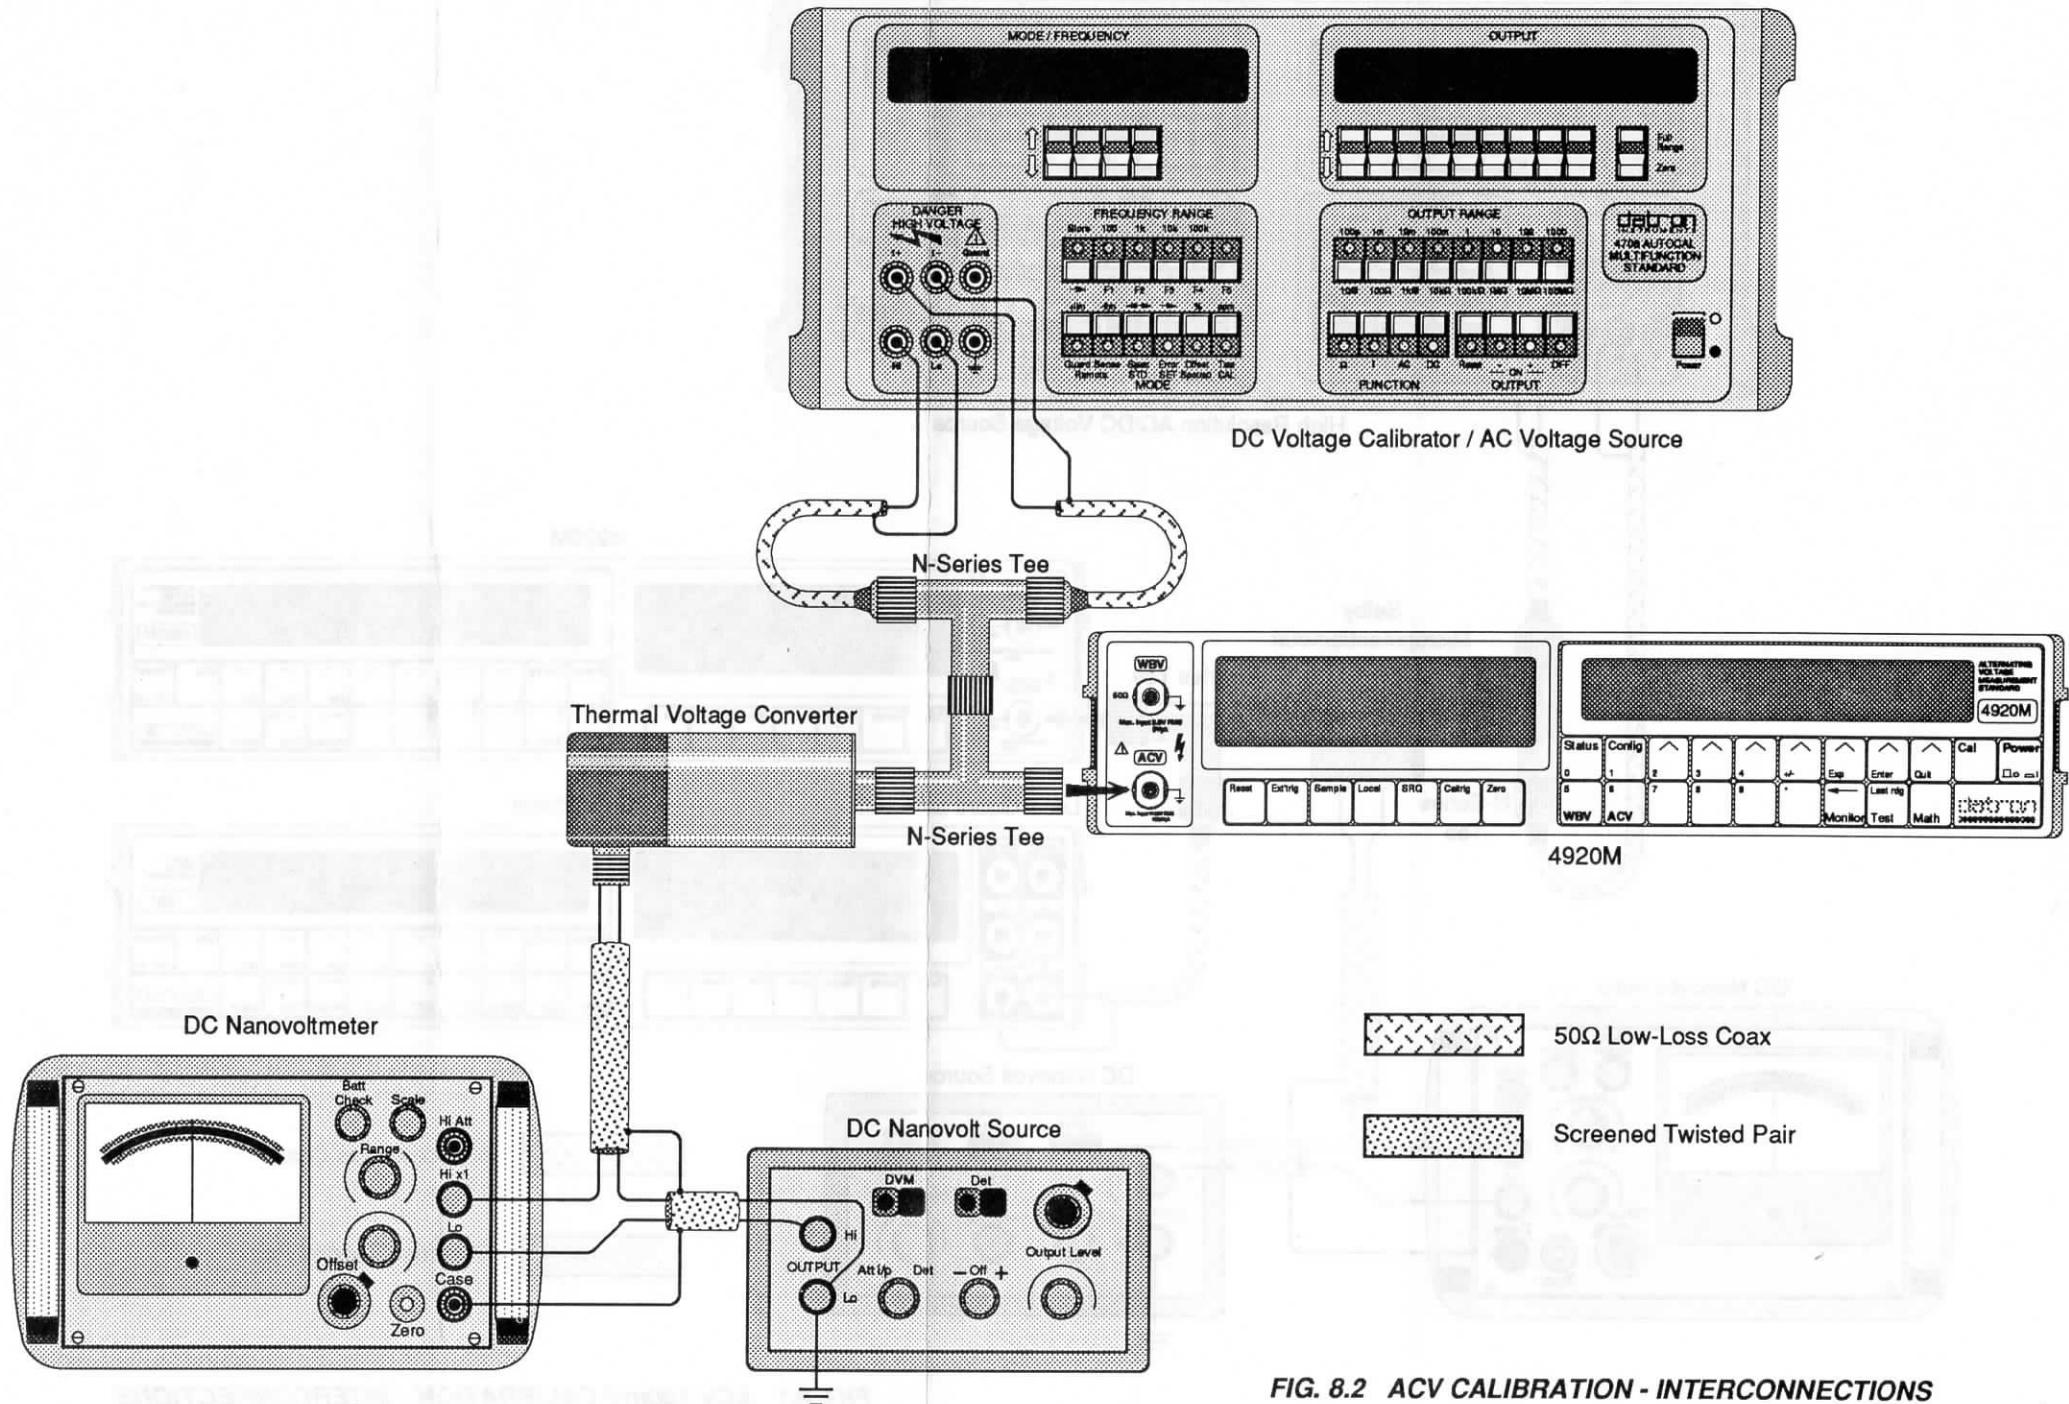

FIG. 8.2 ACV CALIBRATION - INTERCONNECTIONS
2. Connect the DC voltage calibrator into the calibration setup as shown in Figure 8.2 and select the 4920M's ACV function.